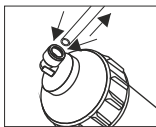

Bild. 3
- 3) Symmetricaly press quick connector's flange and pull plastic tubing out (Fig. 3).